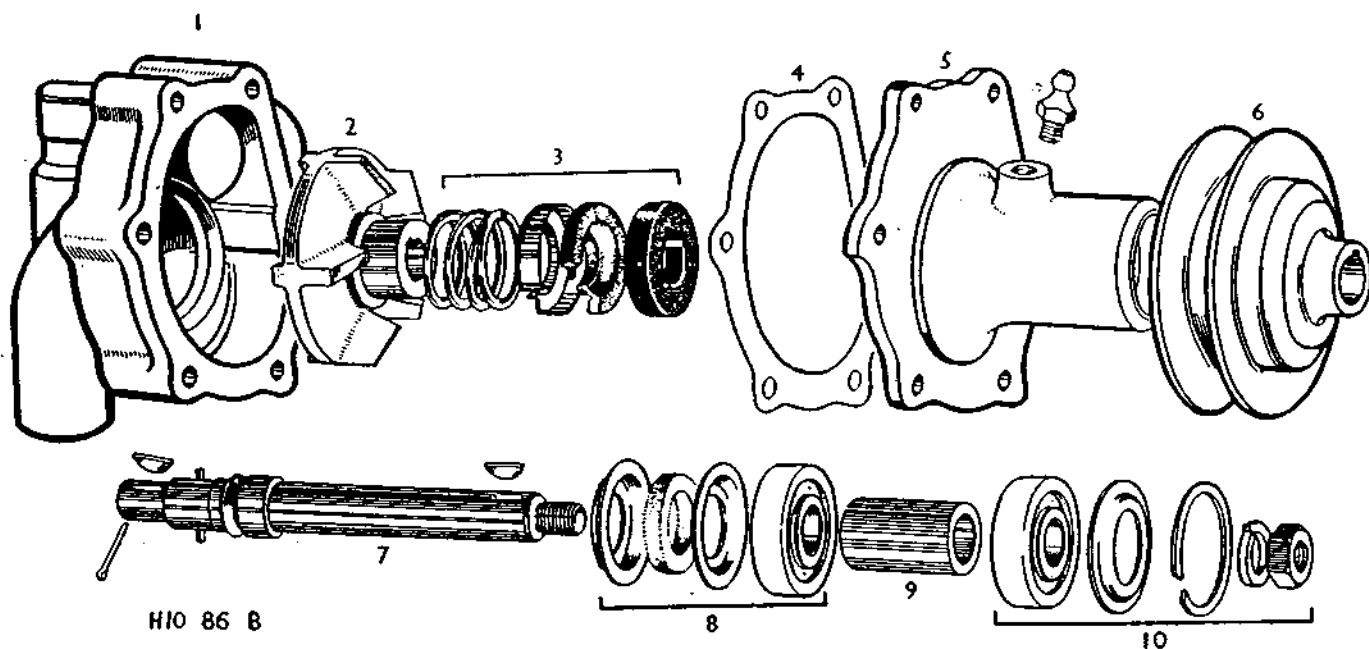

Fig. 4. Order of Assembly for Water Pump.
**To Dismantle. (Fig. 4).**
1. While holding the pump body (5), the spindle (7) can be tapped out toward the rear, carrying with it the impeller, spring and washers (2 and 3).
1 In re-assembling, it is essential that the bearings, distance piece, and the various washers and other parts be positioned correctly. Fig. 4 shows the correct order.